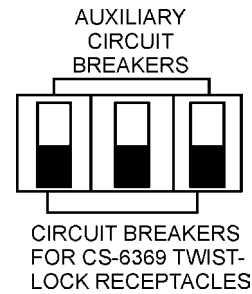

Figure 36. Auxiliary Circuit Breakers (OFF)
3. Place the three **auxiliary** circuit breakers (Figure 36) in the **OFF** position prior to starting the engine.
1. Place the three **auxiliary** circuit breakers in the **OFF** position (Figure 36).